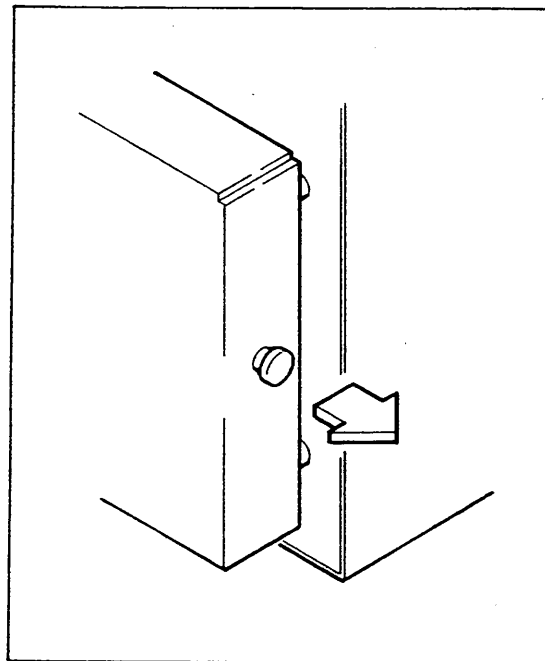

Figure 4-2.
- The input terminals are located inside the rear cover with two fasteners (see Figure 4-2). When wiring the input terminals, remove the two fasteners and pull the cover sideways. After wiring, cover the input terminals. (The input terminal cover is necessary for securing reference junction temperature compensation for thermocouple use. However, even in any other use, cover the input terminals.)
- ③ The ground terminal should be grounded with a low ground resistance.
- ④ To minimize noise pickup: